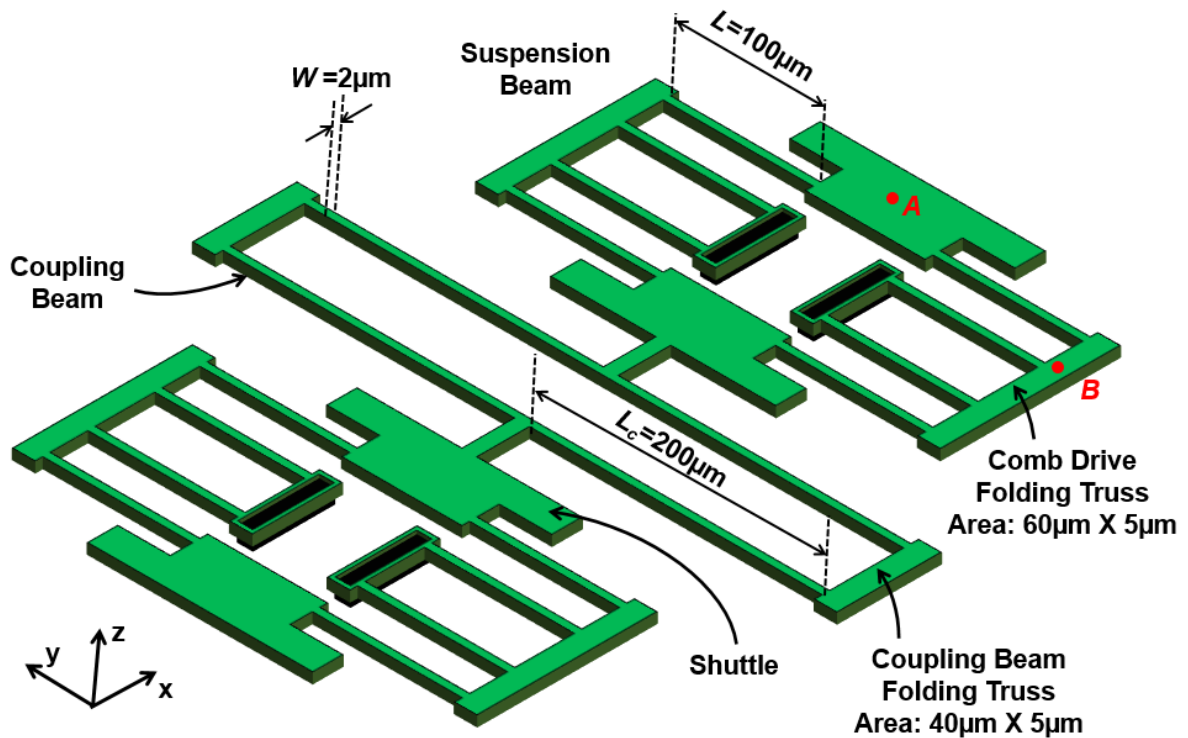

Fig. PS4.2
Now, suppose the shuttles in the structure have been split as shown in Fig. PS4.2.
- (d) Repeat parts (a), (b), and (c) for the structure in Fig. PS4.2.